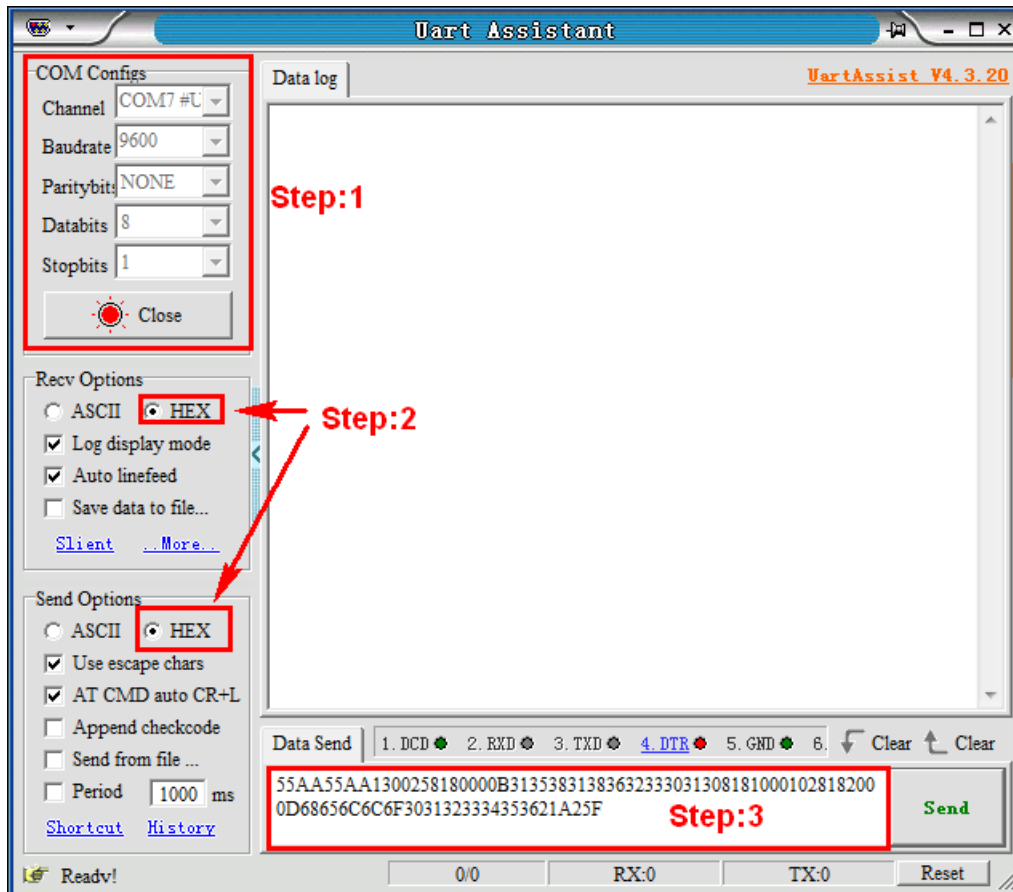

Figure 4-11-8 SMS application example 1
Step 2: Download a serial port tool by using the browser, connect to serial port 1 of the InDTU, set the sending/receiving format to HEX, and copy the compiled instruction to the serial port tool, as shown in Figure 4-11-8. (UartAssist is used here.)